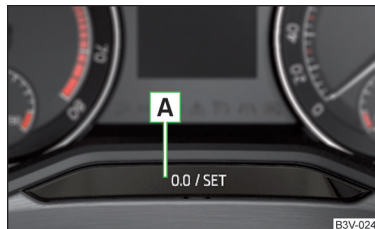

Fig. 46
- › Press and hold the button **A** » Fig. 46 until the **Service** menu item is shown in the display.